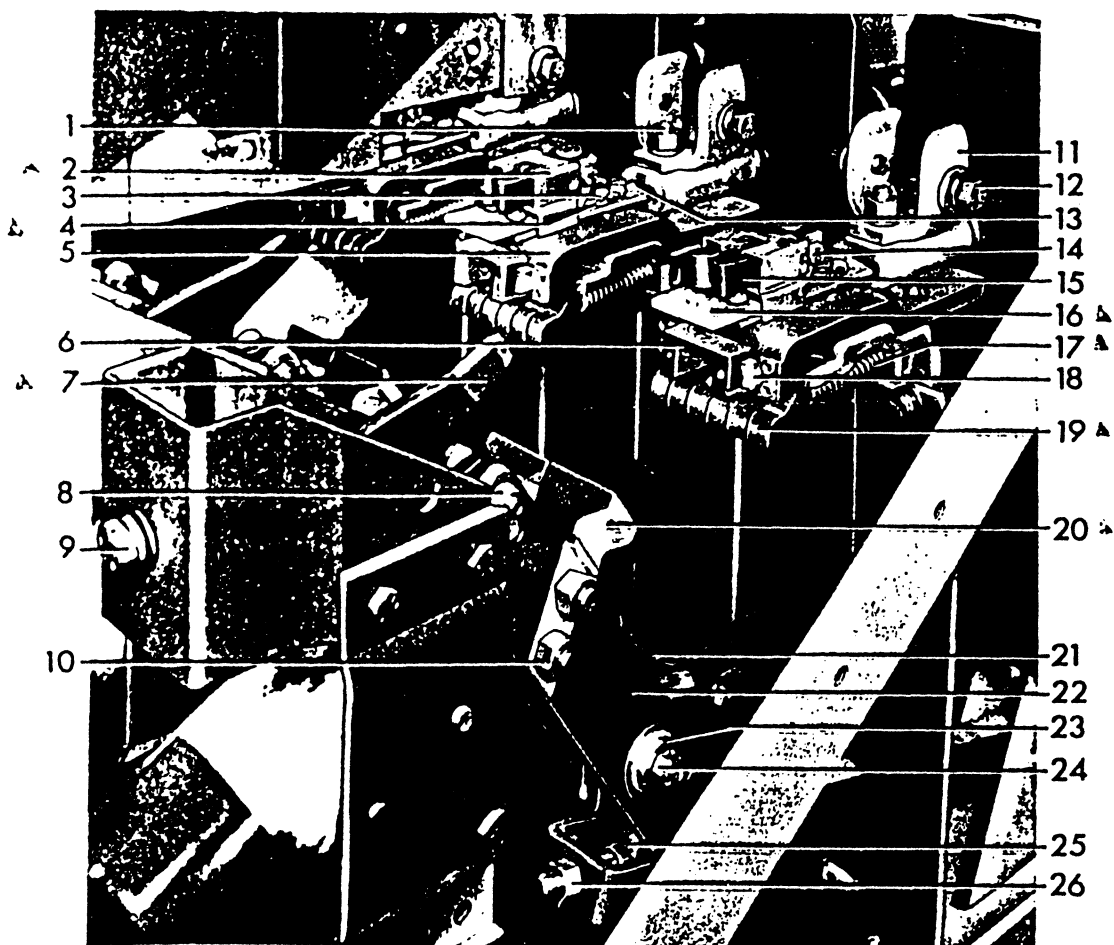

Fig. 21 (8037373) Contact Assembly
2. Primary Contacts (19 and 20 Figure 21). Inspect the condition of the stationary contact fingers and movable contact blocks. Badly pitted or burned contacts should be replaced. (Note: Burned primary contacts indicate the probable need for arcing contact replacement.) If the contact surfaces are only rough-
3. Arcing Contacts (2 and 7 Figure 21). When the arcing contact wipe is less than the minimum specified under ADJUSTMENTS, the contacts should be replaced. The contacts should be inspected for uneven wear and/or damage using a mirror to inspect the stationary contacts. Normally it will not be necessary to remove the interrupters for this 2000 operation servicing unless inadequate wipe or contact condition indicate a need for replacement. If the interrupters are removed, the contact braids, and other parts subject to arcing should be checked for possible cleaning or replacement. Do not grease the arcing contacts under any circumstances.
7. The cup bearing (23) Figure 21 and the contact ring at the hinge point of the contact blade should be disassembled, inspected, cleaned, and relubricated with G-E contact lubricant D50H47. The contact ring should be inspected for wear and replaced when reduced in thickness to less than 1/32". When reassembling the cup bearing, be sure the cotter pin is properly assembled in the castle nut on the hinge pin (24). This assures proper contact pressure at the hinge.
3. The stationary primary contact fingers (19) Figure 21, should be cleaned and the silver contact area of the support cleaned and repacked with G. E. lubricant D50H47.
A. Stationary Arcing Contacts (2), Figure 21.
1. Disconnect the contact braids (4) from the contact fingers by removing two bolts and locking plates (14).
3. To disassemble braids from stud plate remove one bolt (13).
4. To disassemble stud plate from contact support, remove two bolts (3).
5. Reassemble in the reverse order, make sure locking plates are properly re-assembled with bolts (14).
B. Movable Arcing Contact (7) Figure 21.
1. Remove the assembly bolts (8) making note of quantity and location of shims and spacers used between contacts and contact arms.
5. Disassemble the spring retainer (4) by removing mounting bolts (5).
6. Referring to Figure 21, disassemble the contact support (5) and interrupter mounting bracket (11) removing two bolts (1).
7. Reassemble in the reverse order. The interrupter mounting bracket (11) is not symmetrical and must be assembled correctly to orient the interrupter properly on the breaker. The longest projection of the bracket should be toward the front end of the bushing.
3. Remove the connection bar (21), Figure 21, cup bearing (23), and hinge pin (24).
5. When reassembling, first mount the bushing and assemble the cup bearing (23), contact arm (22), and replace pin (24) being sure the silvered contact washers between the bushing and contact arms are in place. The contact surfaces at the hinge point of the contact blade and bushing should have a thin coating of D50H47 grease.